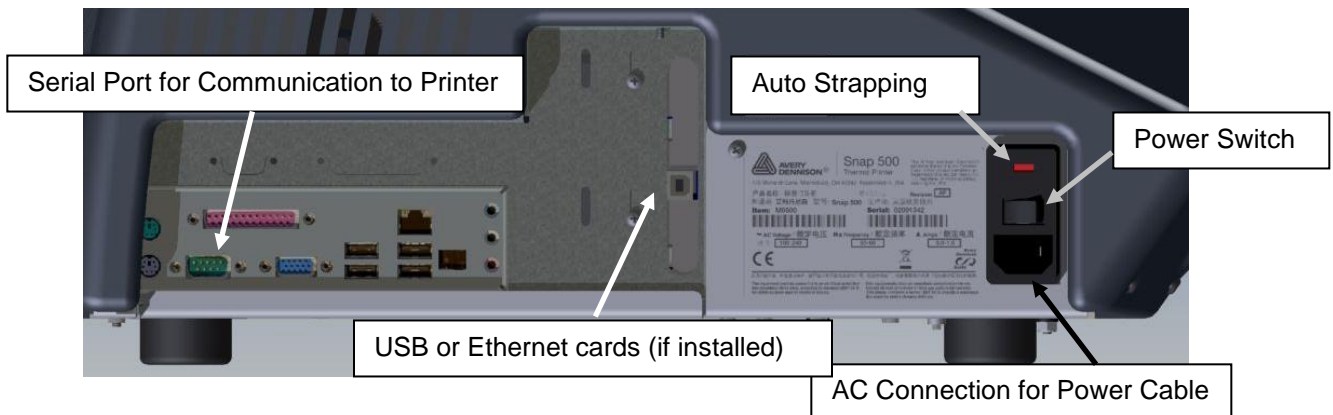

Figure 6: Rear View of the Printer
- Locate the communication cable connectors on the backside of the printer (see Figure 6).